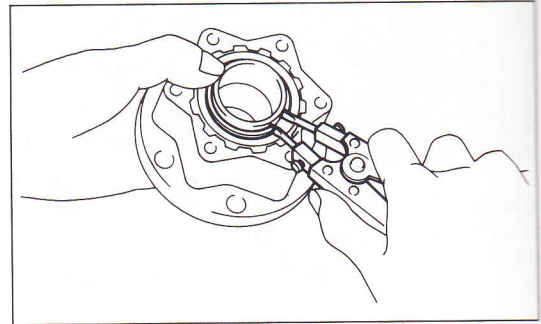
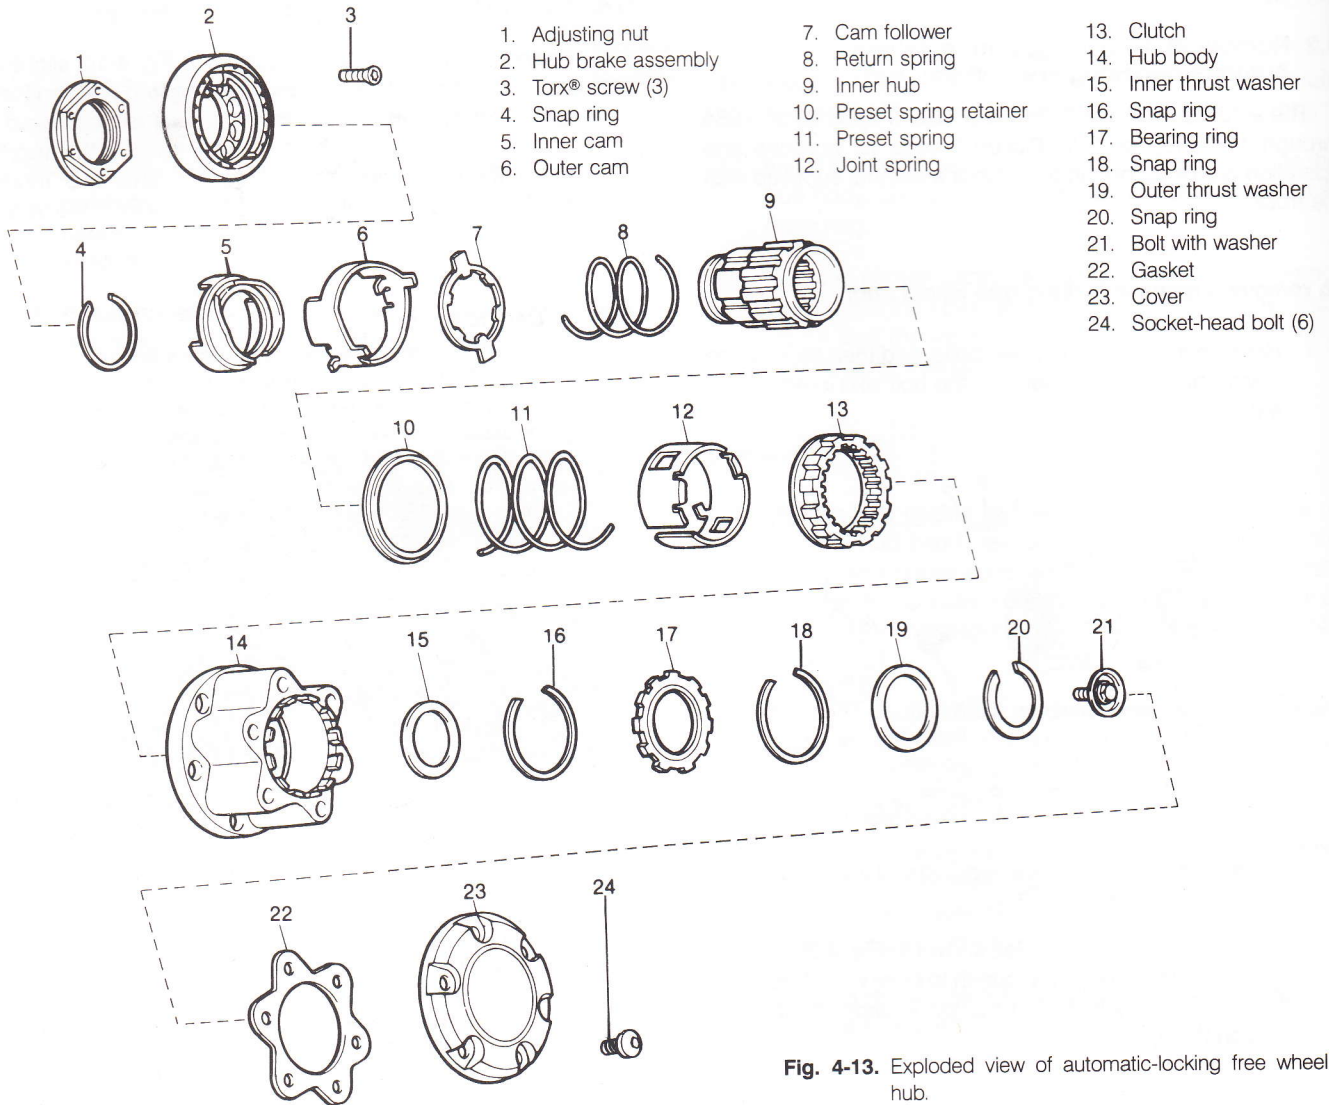

Fig. 4-12. Snap ring being removed prior to removing inner hub subassembly from hub body.
Fig. 4-13. Exploded view of automatic-locking free wheel hub.
1. Remove the snap ring indicated in Fig. 4-12. Remove the outer thrust washer. Remove the inner hub subassembly from the hub body. See Fig. 4-13.
10. Install the thrust washers on each end of the inner hub. Insert the inner hub subassembly into the hub body, and then install the snap ring, using a procedure similar to that illustrated earlier in Fig. 4-12.